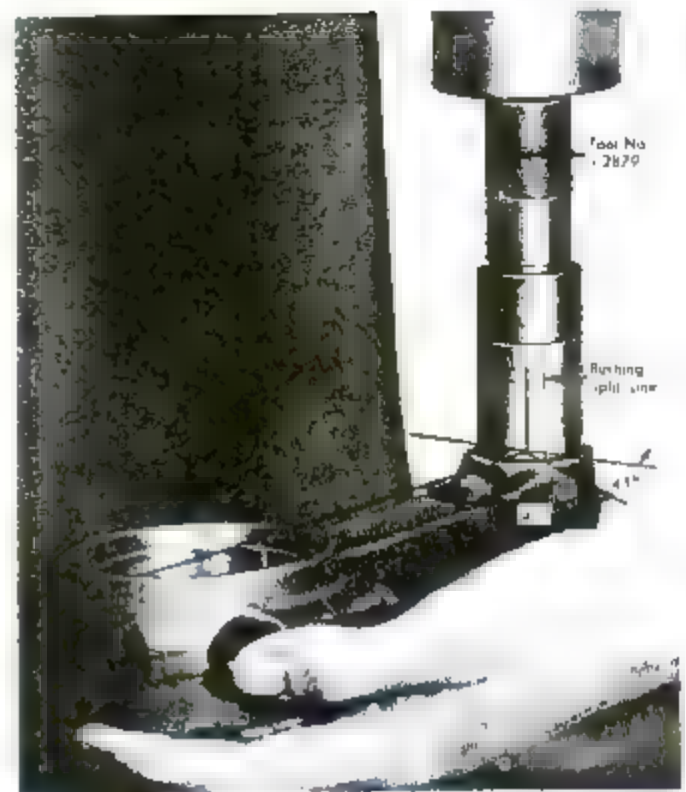

Figure 5-14. Installing Connecting Rod Bushing
e. Place the bushing on the rod boss in such a position that a radial line from the bushing center through the split makes an angle of approximately 45 degrees with the center line extending toward the big end of the rod, as shown in figure 5-14.